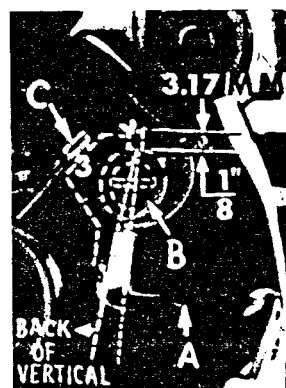

Fig. 8
Insert upper looper (A, Fig. 8) in its holder. Screw (B) holds the upper looper in its holder and permits it to be pushed in or out, or turned around its shank. Insert upper looper holder into upper looper shaft, if it is not already in place. Screw (C, Fig. 8) in clamp holds the upper looper holder in the shaft. Locate upper looper in its holder so that the shank extends $1/16$ to $3/32$ inch (1.59 to 2.38 mm).
When the upper looper is at the right end of its stroke, upper looper holder should be set to position upper looper shank slightly back of vertical (Fig. 8).